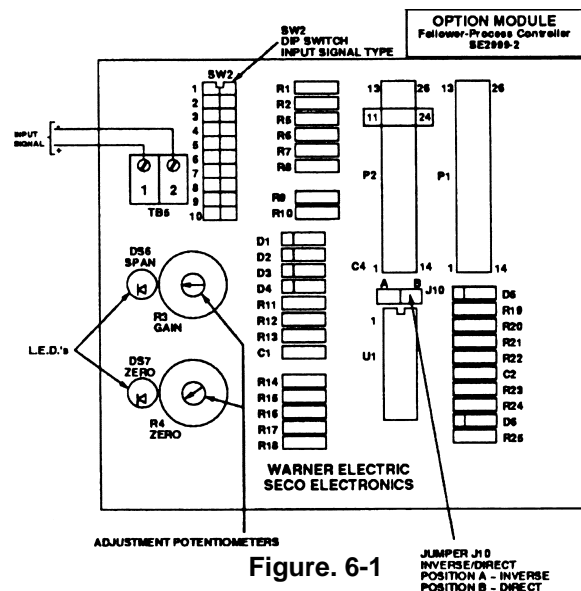

Figure 6-1
6.7 FOLLOWER-PROCESS CONTROLLER; DC VOLTAGE — OR CURRENT (-2/SE2999-2) (See Figure 6-1)